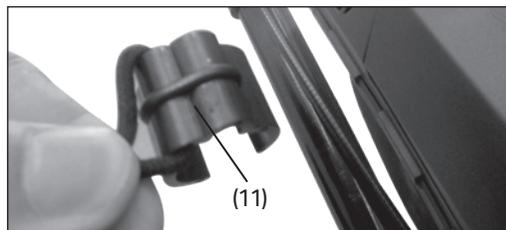

Fig.3
6.2 Fitting the Cable Clip (Fig.3)